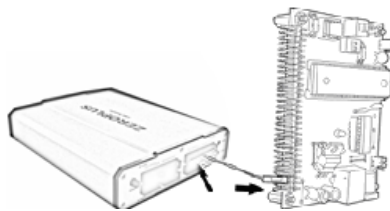

Fig. 2-3
3. The circuit board must be grounded to the Logic Analyzer with the black Ground Cable (Fig.2-3).